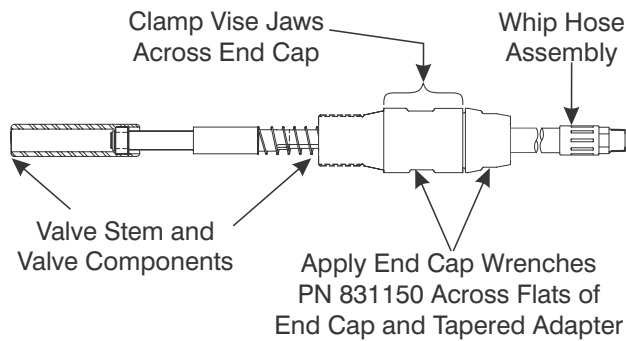
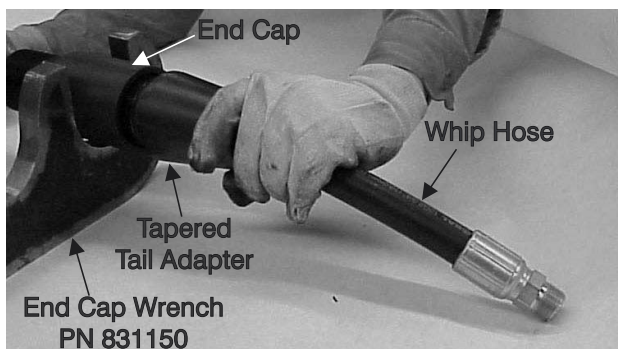

Figure 8-9. Secure End Cap for Disassembly.
Figure 8-10. Slide Tail Adapter from End Cap, over Whip Hose.
DO NOT grip the End Cap (8) by its threads. Refer to Figure 8-9.
- a. When using the End Cap Wrench, grip the End Cap (8) across the flats as shown in Figure 8-9.
- b. When using a vise or saddle clamp, grip the End Cap (8) across the raised area on both sides of the wrench flats as shown in Figure 8-9.
2. With the End Cap secured as described above, fit one of the End Cap Wrenches (831150) across the flats of the Tapered Tail Adapter (13) as shown in Figure 8-9.
3. With the End Cap Wrench, loosen the Tapered Tail Adapter (13). It may be necessary to strike the wrench handle several times to loosen the adapter.
4. Thread the Tail Adapter (13) from the End Cap (8) and slide it off, over the Whip Hose as shown in Figure 8-10.